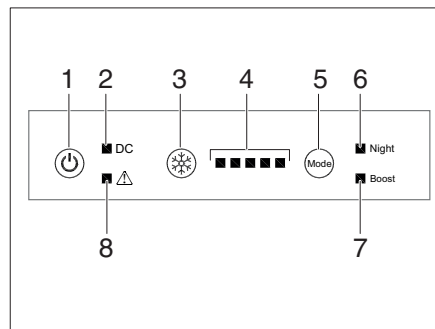

Fig. 173 Control panel with operating and display elements for the fridge
- Press the on/off switch for 1 second. All indicators light up and the buzzer sounds. After 10 seconds, all indicator lights go out except the DC indicator (Fig. 173,2).
- Press any button on the control panel (Fig. 173).
- Press the temperature setting button (Fig. 173,3). A LED lights up on the temperature display (Fig. 173,4).